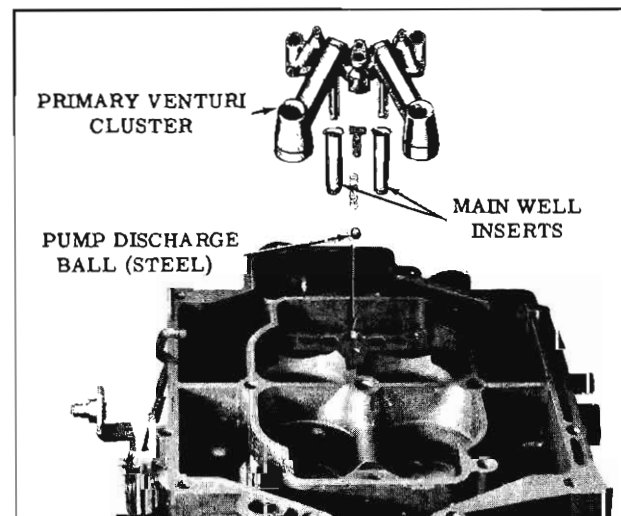

Fig. 4-158 Pump Discharge and Cluster
14. Remove the small T-shaped pump discharge spring guide with needle nose pliers, then remove the small spring and steel ball. (Fig. 4-158)